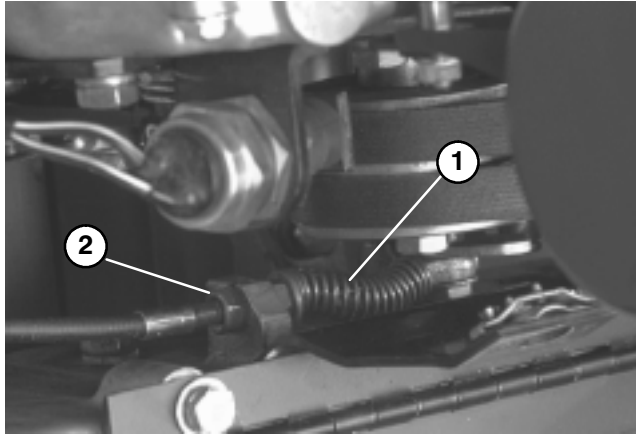

Figure 42
2. Loosen retainer securing v-belt cover and pivot cover open (Fig. 42).